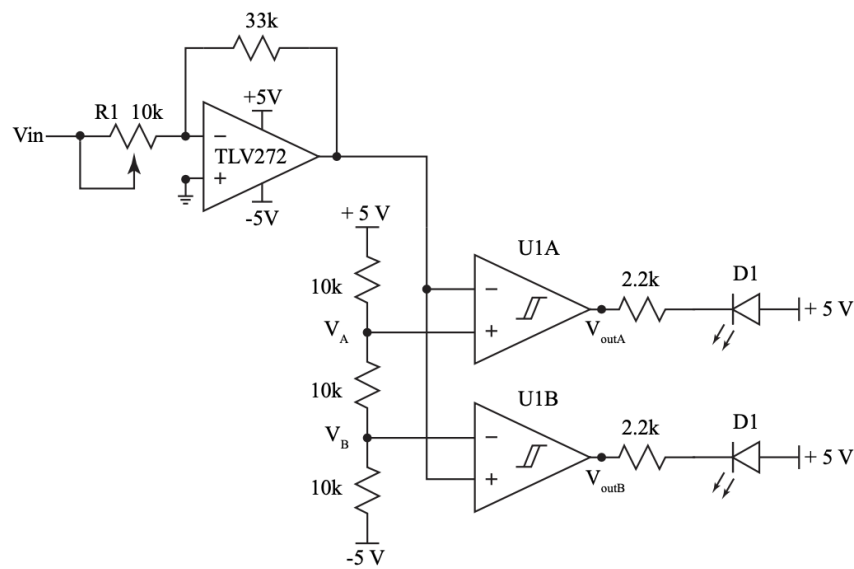

Figure 7.8: A variable gain amplifier, R1 is a potentiometer that can be varied, where the output is checked for clipping.
- Build the circuit in Figure 7.8. Power the LM393 and TLV272 with ± 5 V. Set the input voltage to a 1kHz, 0.1 V amplitude sine wave and run a transient solution with a stop time of 2m. Choose the value for R1, 10k pot, (vary the 'w' parameter or just hard code the value) so that the diodes conduct current and illuminate. Plot the input voltage, output of the op amp, positive and negative inputs to the comparator, and the current through both LEDs. (6 items total). Save an image of the circuit and the plots.